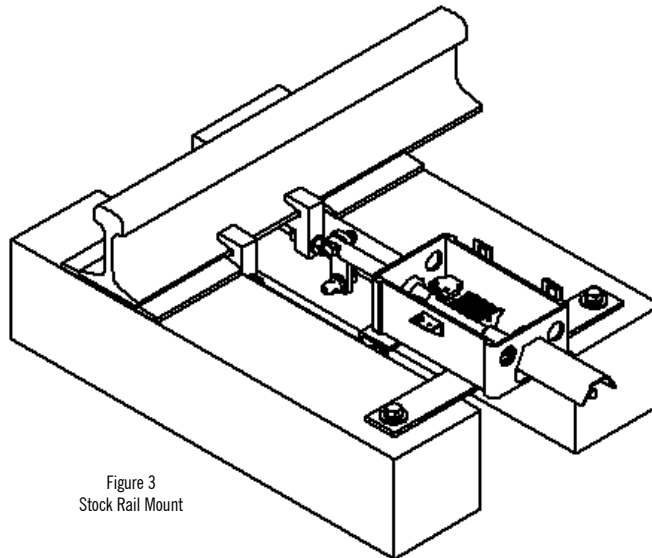

Figure 3
3. **Stock Rail Mount: (see figure 3)**